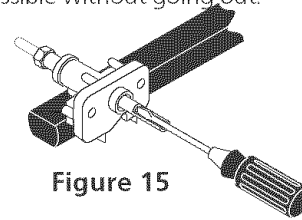

Figure 15
4. Adjust the "LOW" Setting of Surface Burner Valves (see Figure 15)